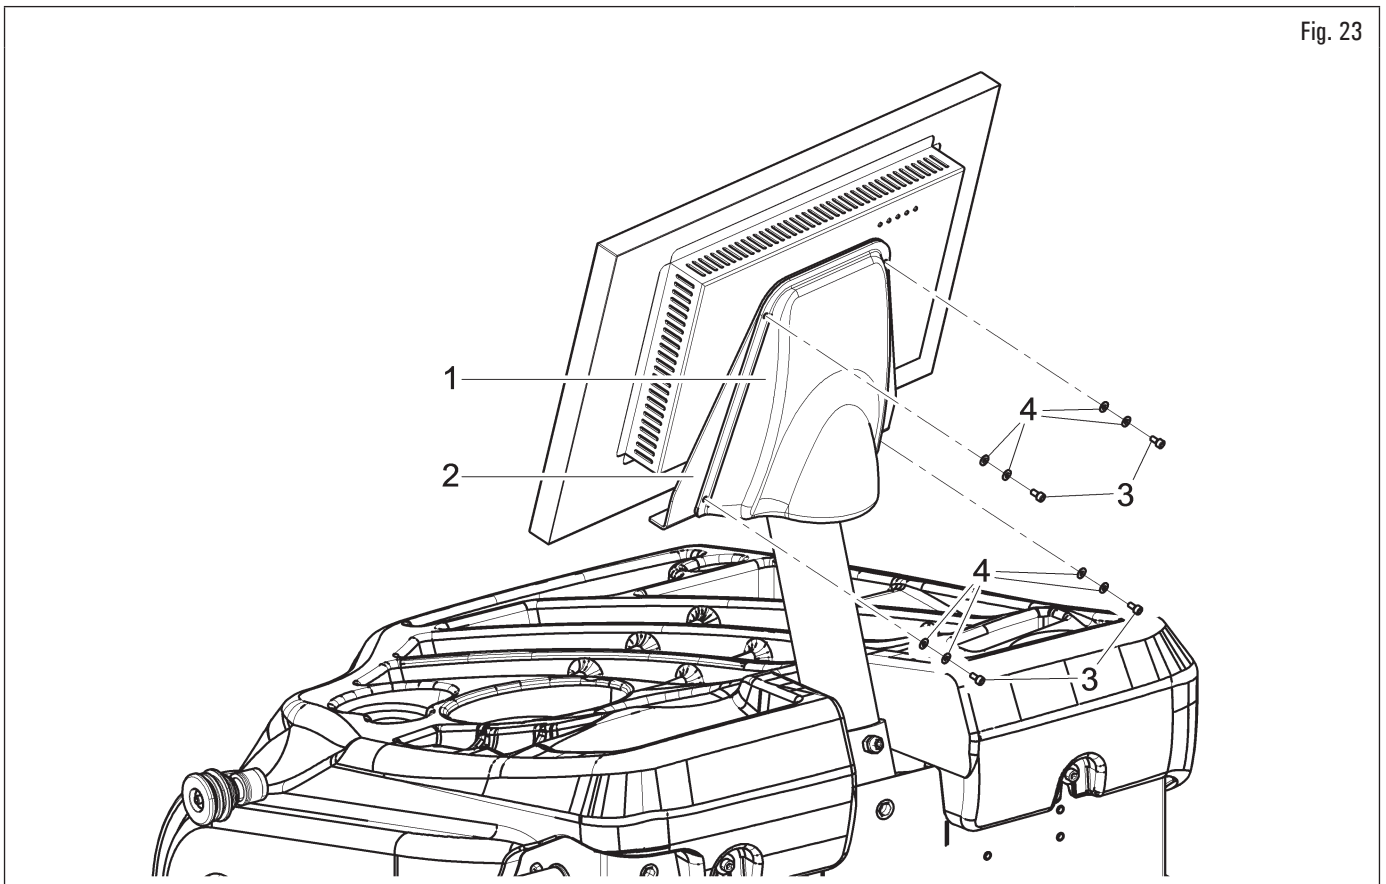

Fig. 23
5. secure the carter (Fig. 23 ref. 1) to the support (Fig. 23 ref. 2) with the bolts (Fig. 23 ref. 3) and the washers (Fig. 23 ref. 4), supplied.